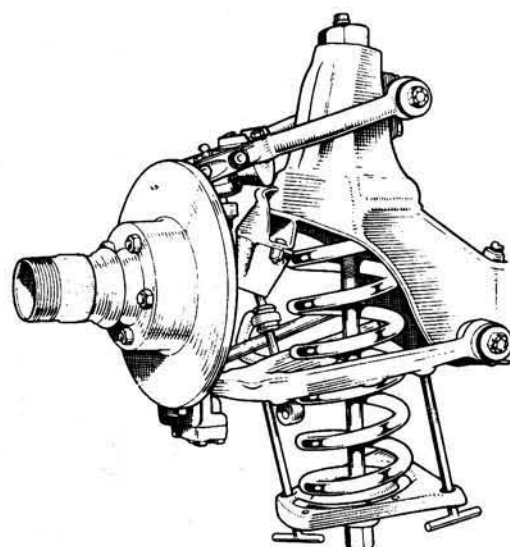

Fig.11.10. Aligning the seat pan holes
- 6 Refitting is the reverse procedure but alignment of the seat pan holes with their counterparts in the lower wishbone will be made easier if pilot studs 8" (20 cm) in length with one end threaded 3/8" UNF are fitted as shown in Fig.11.10. Take note of the necessity for fitting similar coded springs and, possibly, packing pieces.